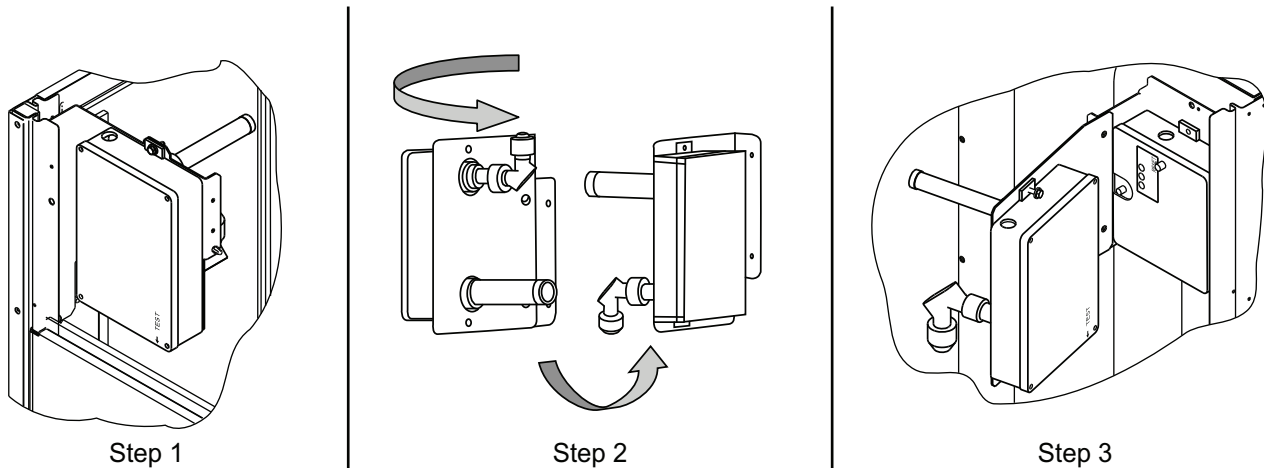

Fig. 74 — Completing Installation of Return Air Smoke Sensor
1. Unscrew the two screws holding the return-air smoke detector assembly. See Fig. 74, Step 1.
3. Turn the assembly 90 degrees and then rotate end to end. Make sure that the elbow fitting is pointing down. See Fig. 74, Step 2.
4. Screw the sensor and detector plate into its operating position using screws from Step 1. See Fig. 74, Step 3.